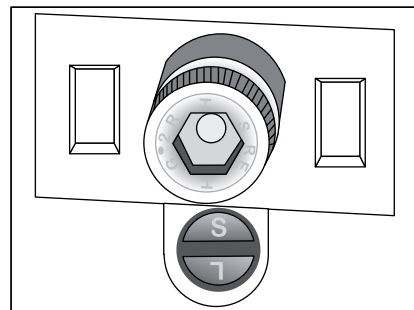

Figure 5
- b. If you are using  $\frac{5}{8}$ " staples set S up. (See Figure 5)